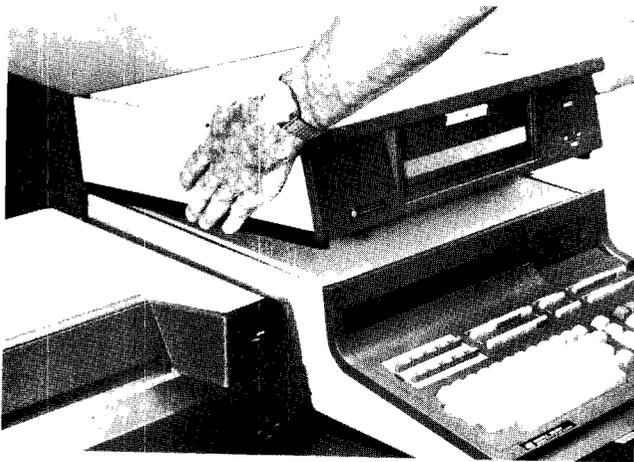

Figure 3. Positioning FD-30 Mass Memory Unit
STEP 2. If you intend to install the FD-30 between the computer and printer, remove the printer and set it along side the computer. If there is not enough space along side the computer, disconnect the cables from the back of the printer before removing it. As shown in Figure 3, place the FD-30 on top of the computer and place the printer on top of the FD-30 as if you were placing it on top of the computer. Reconnect the cables to the printer.